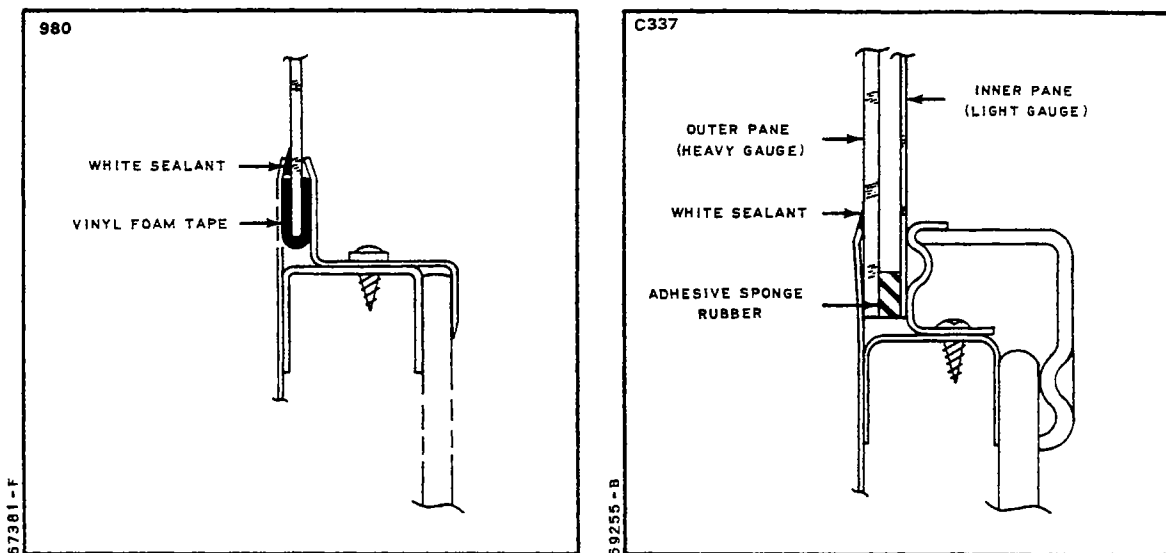

Figure 4-6. Side Window Installation, Single Pane (Typical) Figure 4-7. Side Window Installation, Double Pane (Typical)
a. Single Pane. (Refer to Figure 4-6.)